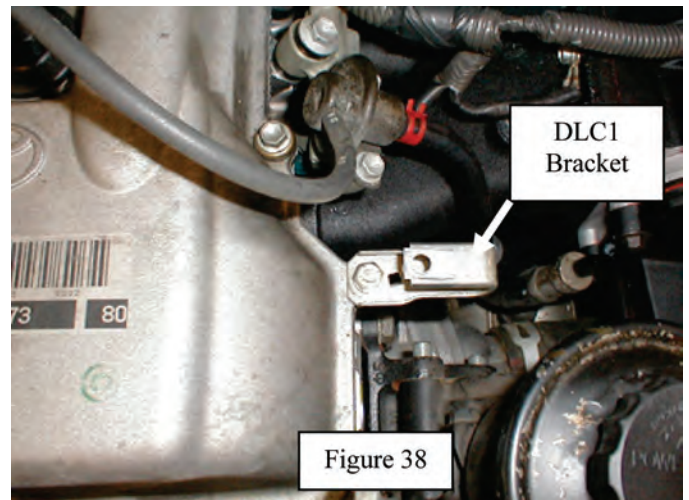

Figure 38
87. On 1995-2001 vehicles, follow Steps 95 and 96. Mount OE DLC 1 bracket to the unused boss on the cylinder head. See Figure 38. Use the OE bolt removed in Step 18. Torque bolt: 6 ft-lbs.